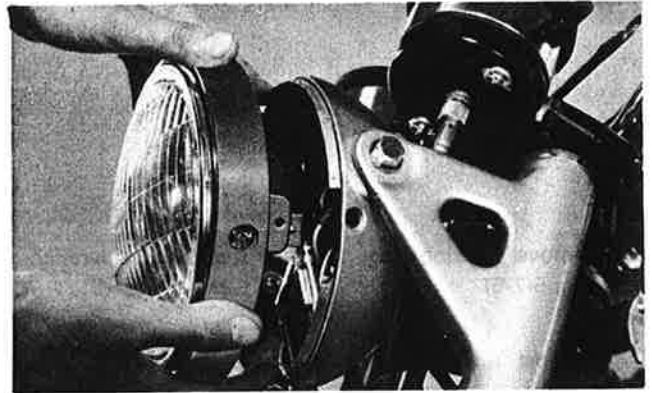

Fig. 5-7-1
1. After removing front forks, remove headlight from headlight body. (Fig. 5-7-1)